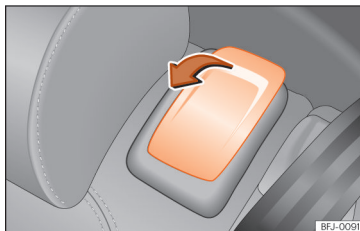

Fig. 147 Second seat row: accessibility controls.
- Pull the release lever **»» Fig. 147** in the direction of the arrow.
- Pull the lever **»» Fig. 147** and push the backrest backwards until it is not vertical. The entire seat folds down **»» ⚠**.